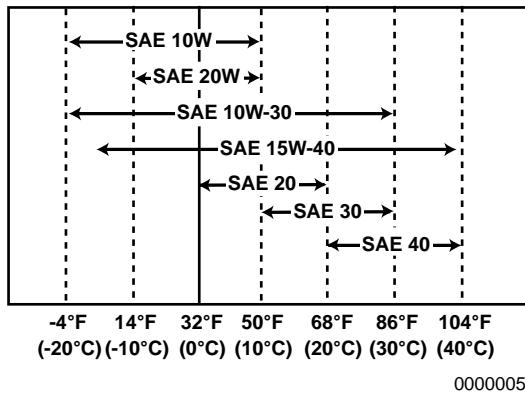

Figure 8
3. Select the oil viscosity based on the ambient temperature where the engine is being operated. See the SAE Service Grade Viscosity Chart (**Figure 8**).
Select the appropriate engine oil viscosity based on the ambient temperature shown in the SAE Service Grade Viscosity Chart in **Figure 8**.